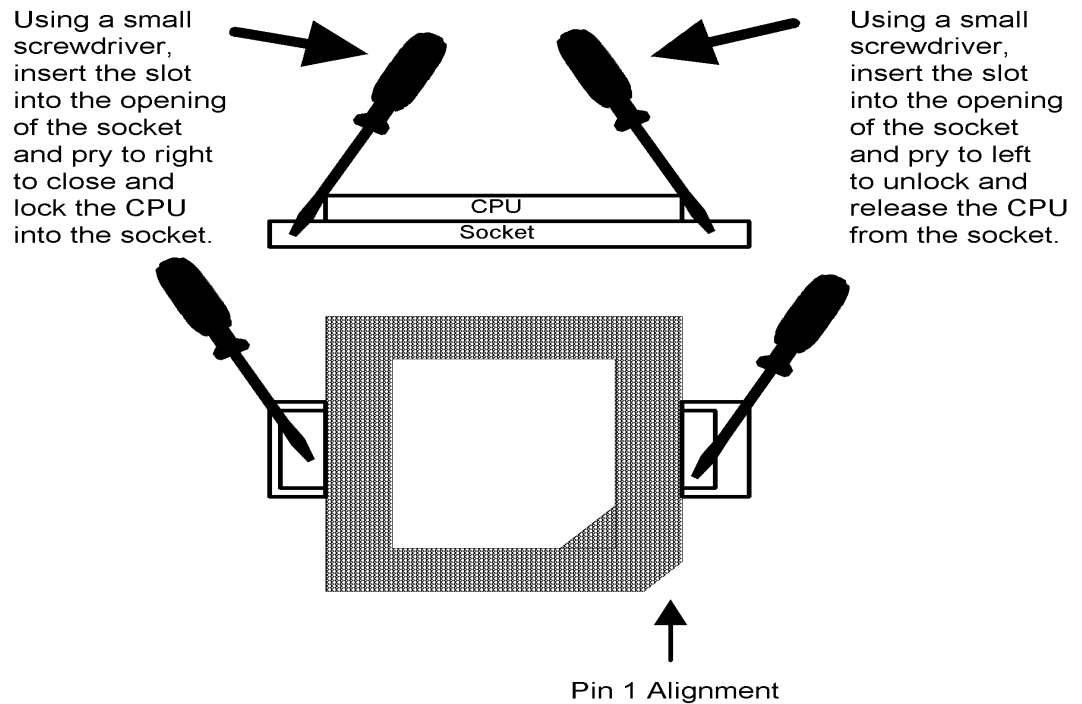

Figure 6-6 Removing the Processor Chip
The illustration in Figure 6-6 shows the procedure for removing/ replacing the processor from/ to the processor socket on the Main Board.
2. Insert a small flat-blade screwdriver into the rightmost opening as shown in Figure 6-6.
3. Gently pry to the left (with pin 1 alignment at the bottom right as shown in Figure 6-6).
5. To install a chip into a vacant CPU socket, insert a flat blade screwdriver into the opening at the right side of the processor socket (refer to Figure 6-6) and pry to the left to unlock socket.